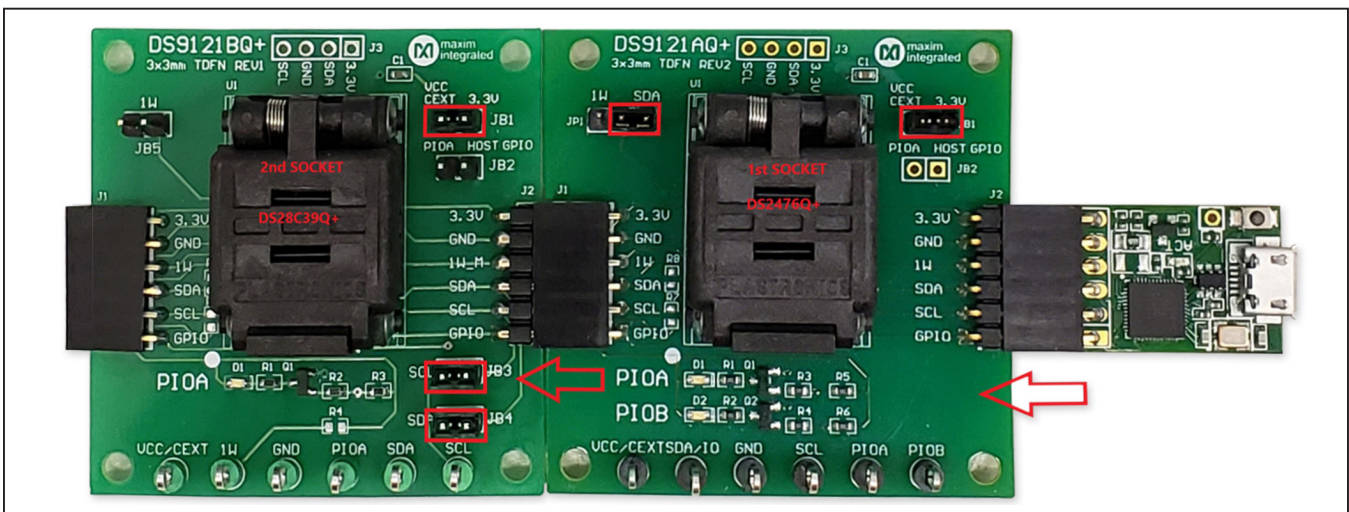

Figure 9. DS9481QA-300#, DS9121AQ, and DS9121BQ
- d) Connect the DS9121AQ+ J2, 6-pin male plug, to the DS9481P-300#, 6-pin female socket, per Figure 9.
- e) Connect the DS9121AQ+ J1, 6-pin female socket, to the DS9121BQ+ J2, 6-pin male plug per Figure 9.
- f) For the DS9121AQ+ boards that contain DS2476, configure jumpers JP1 to use SDA and JB1 to use 3.3V per Figure 9.
- g) For the DS9121BQ+ board that contain DS28C39, configure jumpers JB3 to use SCL, JB4 to use SDA, and JB1 to use 3.3V per Figure 9.